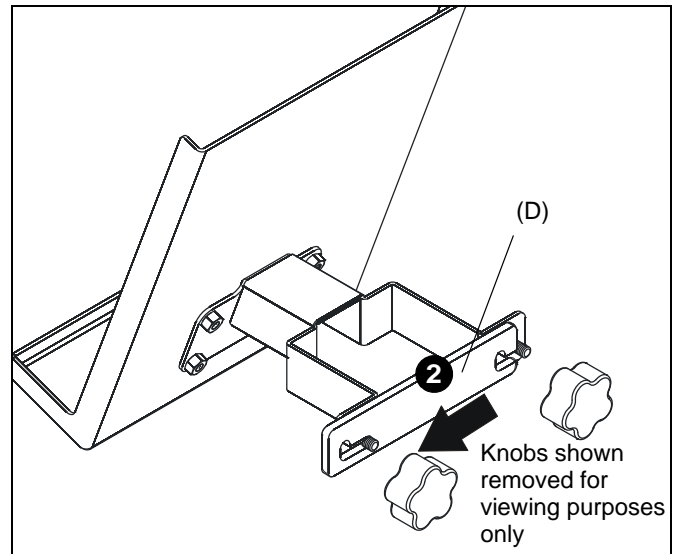

Figure 4
2. Slide bracket to the left until it disengages from the right stud. (See Figure 4)